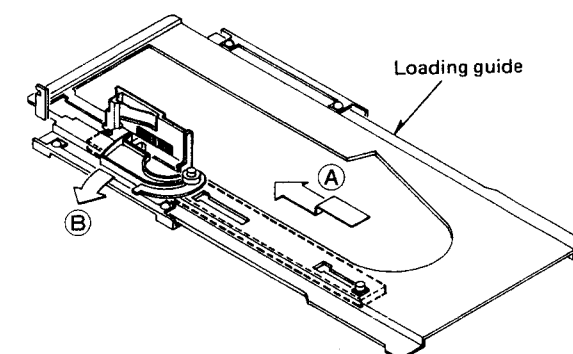

Fig. 16
2. Move the drive rack in the direction of arrow A while opening the switch arm in the direction of arrow B, and then pull out the drive rack downward. (Fig. 16)